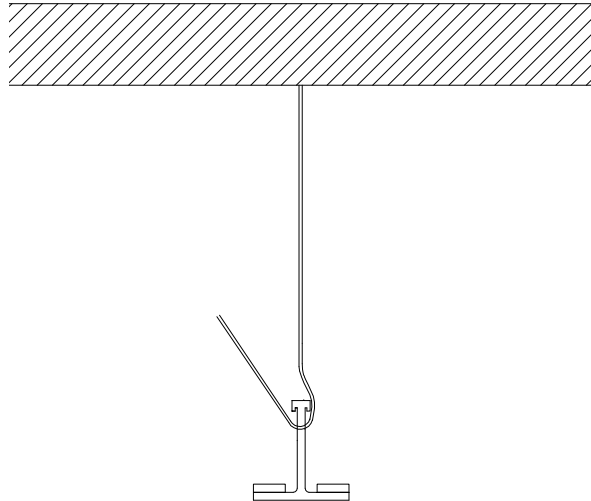

Figure 16. Hanger Wire
Step 12: Install remaining HGWC located outside of the Unistrut area, starting by raising the first section, temporarily supporting it using hanger wire. Do not twist the wires at this stage; bend in loose 180 degree loops (**Figure 16**) allowing leveling of the ceiling system once all sections are in place.